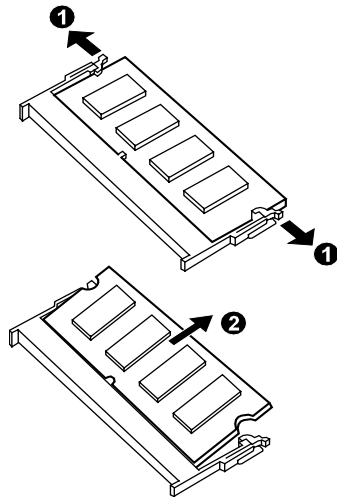

Figure 2-15
2. Pull the retaining clips outwards (❶) and remove the SO-DIMM (❷). (figure 2-15)